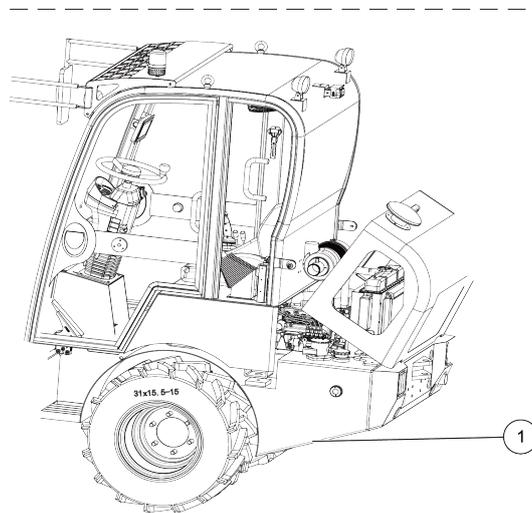

Figure 6-18 Hydraulic oil plug
Step 4: Unscrew the oil drain plug (1) to drain the old oil, and use a container to hold it, as shown in Figure 6-18;